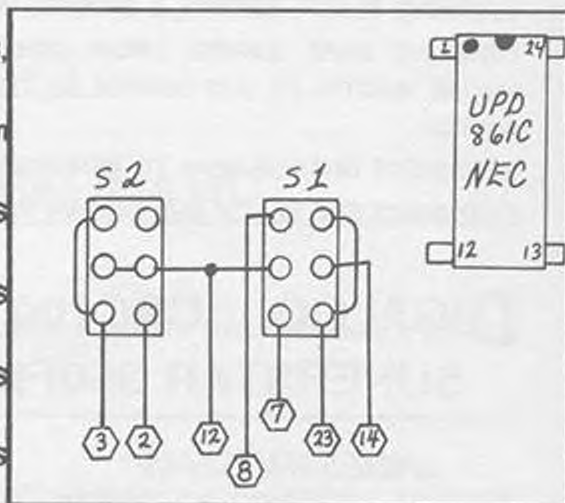

FIGURE 1. TRC-468
3. WIRE TWO DPDT CENTER OFF SWITCHES AS PER FIG.1.
GIVES 27.425-27.865. REFER TO FIGURES 1 & 2.